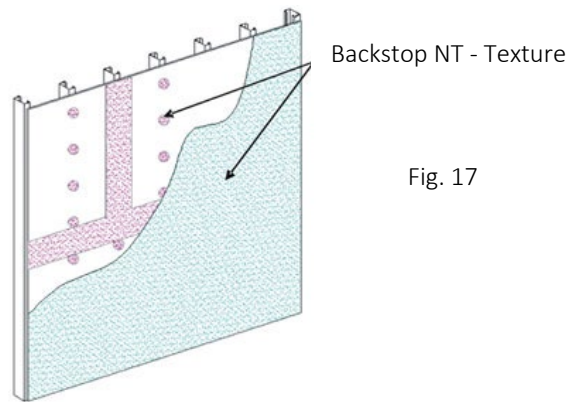

Fig. 17
- 3) Use a coarse, open-cell foam roller cover with a 3/8 in (9.5 mm) foam nap (FoamPRO #58 roller). Apply a uniform, continuous film of Backstop NT – Texture over the entire surface of the sheathing, concrete or masonry, including the previously treated areas – Figure 17. **NOTE: If the roller pulls material back out of the sheathing joints, it indicates that the joint material is not sufficiently dry.**